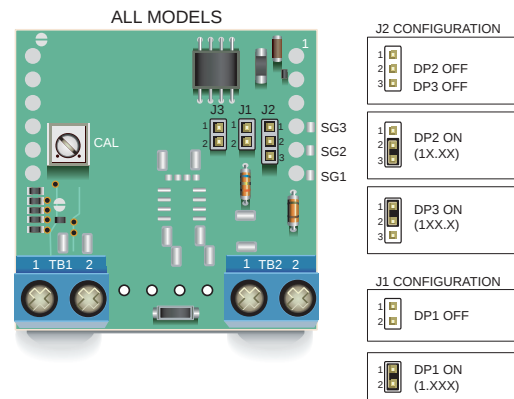

Figure 7. Decimal Point Selection Using J2 and J1 (Applies to All Models)
- 7. Decimal Point Selection:** As shown in the Ordering Information guide, DCA5-20PC ammeters are multiple input-range devices. For example, with a 50mV input, DCA5-20PC-1-DC1 models can be configured to display "5.00", "50.0", or "500" Amps by simply removing or relocating decimal-point-selector jumper J2 (see Figure 7). Decimal points serve as placeholders only; they have no affect on displayed accuracy or resolution. If jumper J2 is not available, solder gaps SG1, SG2, or SG3 can be used to select DP1 ("1.XXX"), DP2 ("1X.XX"), or DP3 ("1XX.X"), respectively.